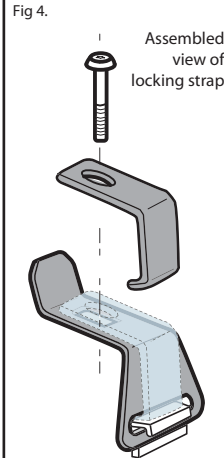

Fig.5.
**NOTE:** The pointier end of the Rubber Pads faces towards the front of the vehicle (Fig.5).